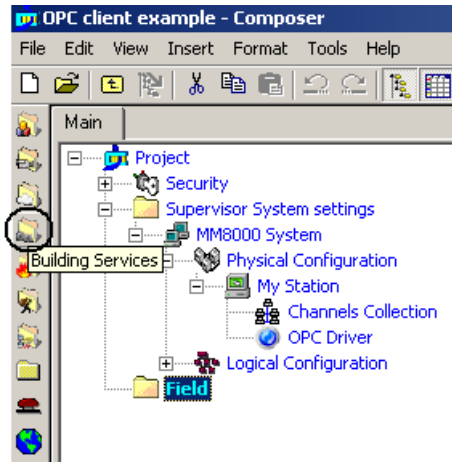
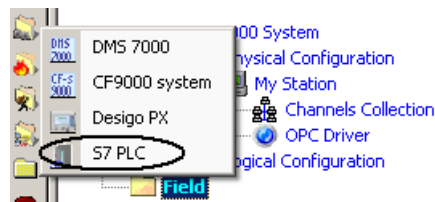

Fig 22 ‘General purpose’ icon
Fig 23 Adding a S7 subsystem
2. In the menu General purpose (Fig 22), select the ‘Generic OPC’ subsystem to add the new node (Fig 23).